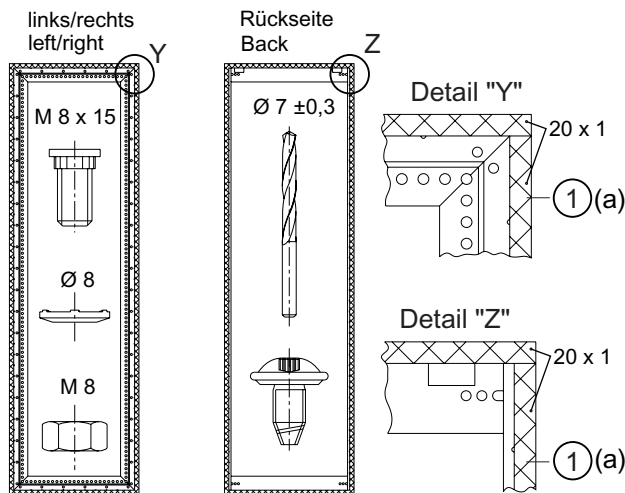

Fig. 8a
- 1 When two or more cabinets are to be joined together, 20x1 mm sealing tape must be attached all around between the outer row of holes and the frame edge on one of the frame surfaces to be joined to achieve degree of protection IP54. See Figure 8a (a).